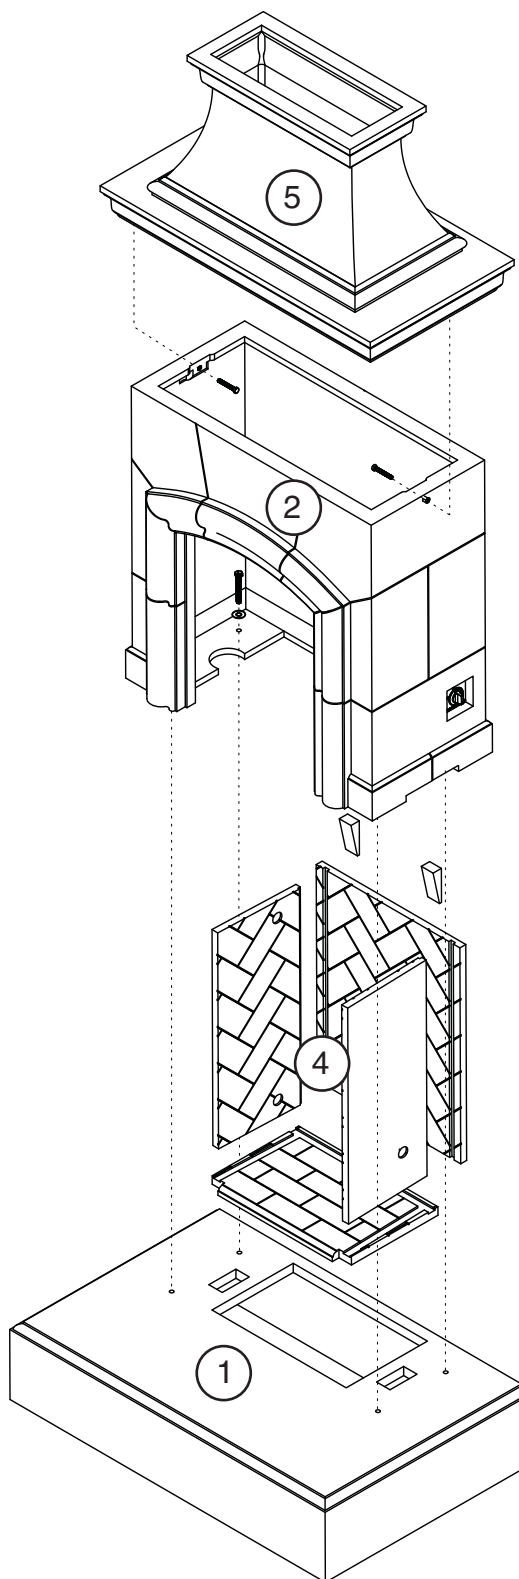

Fig. 12-1
- Fig. 12-1 provides an overall orientation and bolt assembly detail for the fireplace.